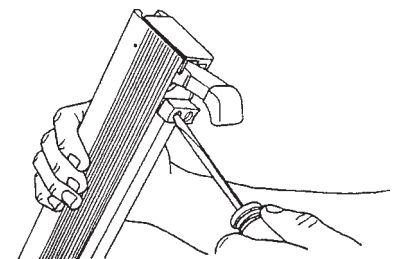

Figure B-90
- Raise the outfeed end of the rip fence and use a medium screwdriver to loosen the two screws attaching the fence rest. Tighten the fence rest just enough to move it with firm pressure. See Figure B-90.